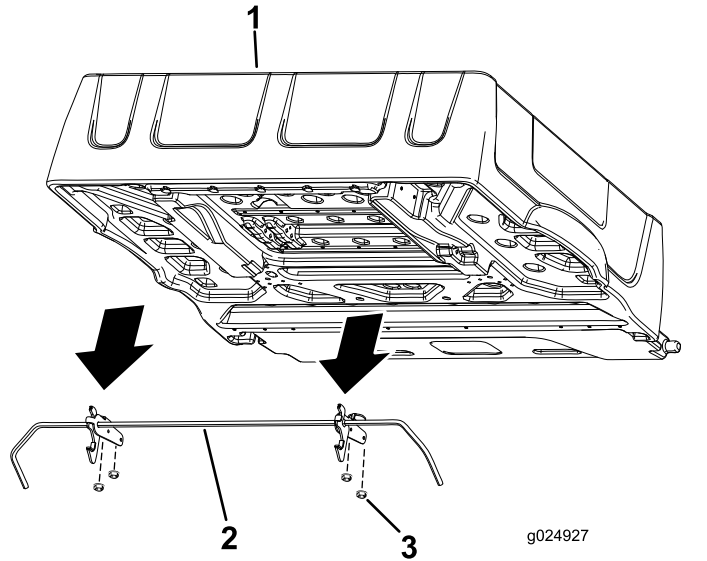

Figure 3
6. Remove the 4 flange nuts securing the latch-rod brackets to the underside of the bed (Figure 3).